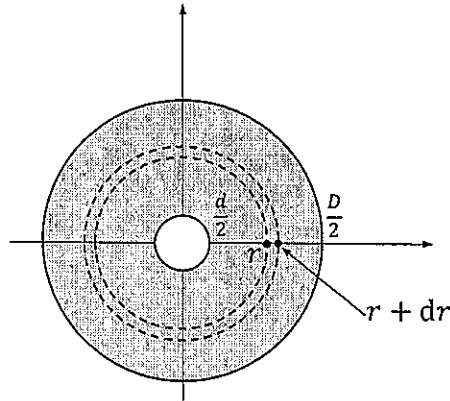

Figure 1-5
- (5) By considering balance of heat in the control volume surrounded by the dashed lines in Figure 1-5, derive the governing equation for the radial distribution of the temperature, $T(r)$, (r denotes the radial position) in the coating material. Assume that the temperature distribution in the coating material is uniform in the circumferential and axial directions. Show the boundary conditions at the inner ($r = d/2$) and outer ($r = D/2$) surfaces of the coating material by using u_∞ , T_∞ , λ_∞ , ρ , C_p , λ , d , D , l , h , and/or \dot{q} . Here, h is the heat transfer coefficient (circumferentially averaged value) at the outer surface of the coating material.
- (6) In Question (5), if the air-flow velocity is constant, the temperature T_d of the wire also becomes constant after a certain time has passed. Find this temperature T_d of the wire.
- (7) Let ρ be $2.5 \times 10^3 \text{ kg/m}^3$, C_p be $8.0 \times 10^2 \text{ J/(kg} \cdot \text{K)}$, λ be $1.0 \text{ W/(m} \cdot \text{K)}$, and D be 1.0 mm . By estimating the order of each of the terms in the governing equation that you have found in Question (5) to represent the temperature distribution in the coating material, discuss how the dynamic characteristics of the sensor changes compared to that under the conditions shown in Question (3).